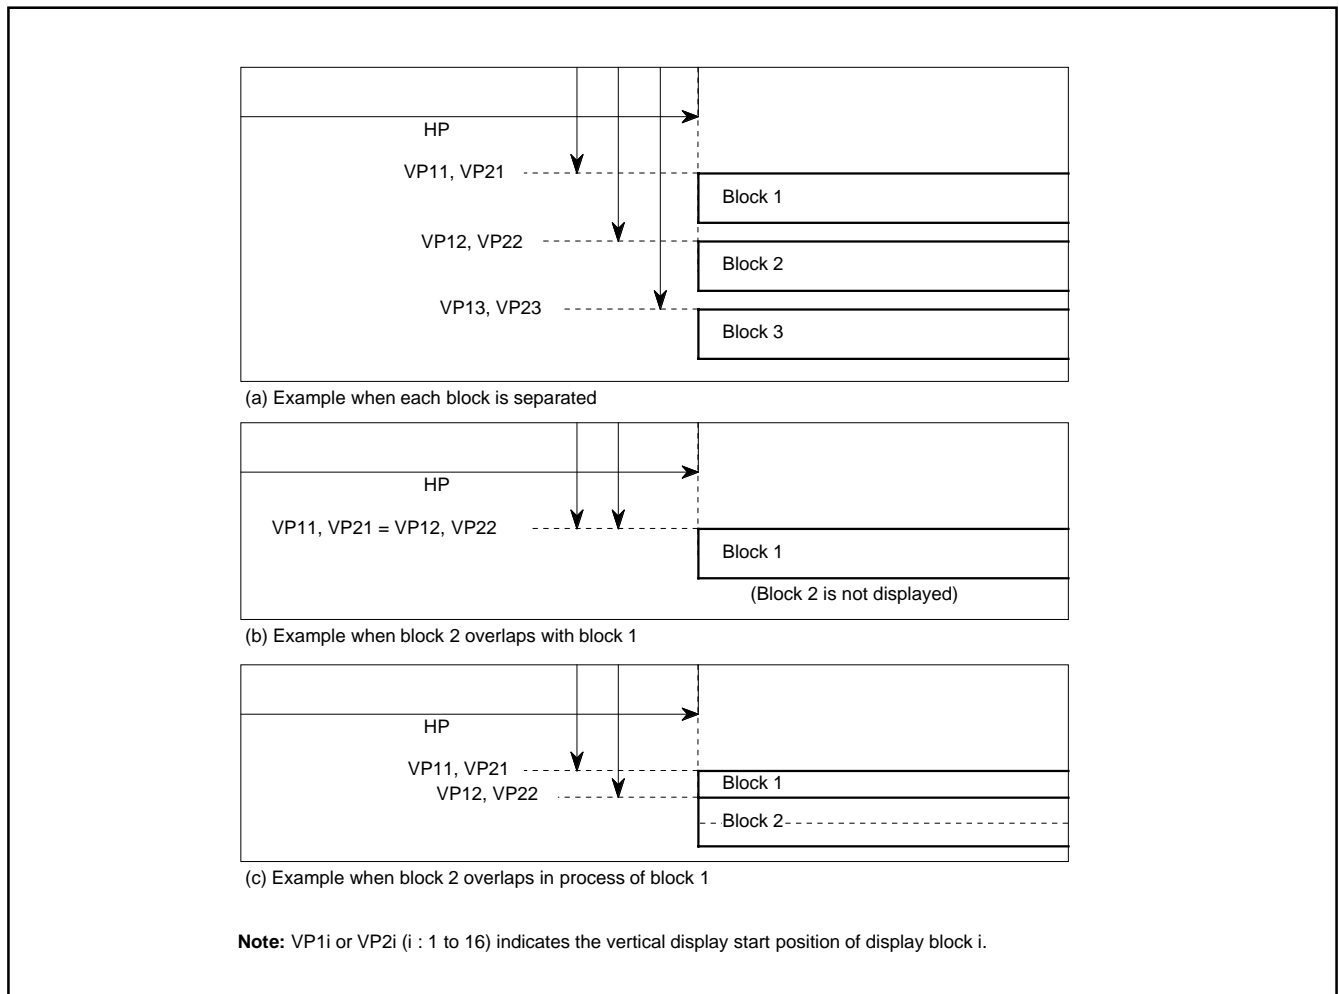

Fig. 8.11.8 Display Position
- When the display position is overlapped with another block (Figure 8.11.8 (b)), a lower block number (1 to 16) is displayed on the front.
- When another block display position appears while one block is displayed (Figure 8.11.8 (c)), the block with a larger set value as the vertical display start position is displayed. However, do not display block with the dot size of 2Tc X 2H or 3Tc X 3H during display period (*) of another block.